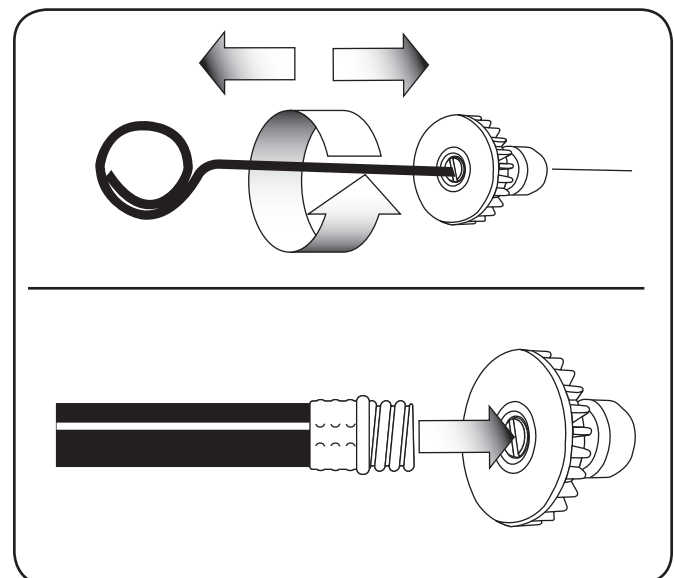

Figure 6-1
4. Remove the high pressure nozzle from the spray wand. Remove any obstructions with the nozzle cleaning tool provided and backflush with clean water. See Figure 6-1.